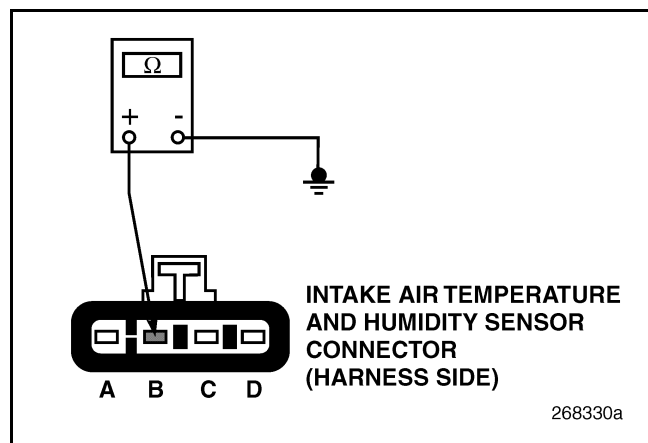

Figure 331
3. Check for continuity between IATH Sensor harness connector pin B (signal line) and a good ground (see Figure 331).